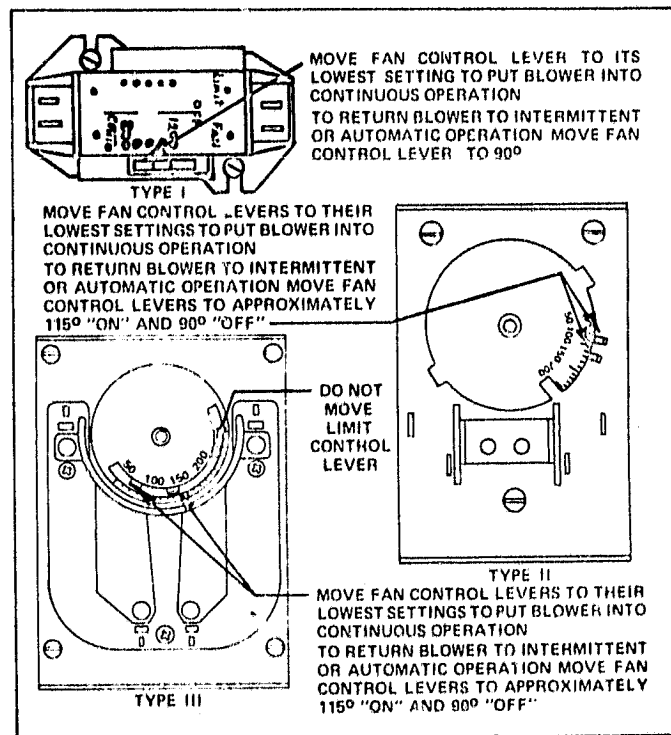

FIGURE 1
- 2 - **Fan Control** - Refer to Figure 1 to determine the type of control used on this unit and the correct setting.